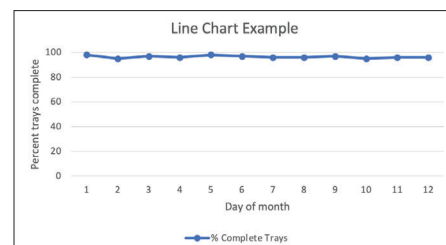

Figure 1
**Line charts:** Line charts, such as **Figure 1**, are an effective way of looking at data over time (or in batches). The timeframe is placed on the x axis (horizontal line) and the measurement is placed on the y axis (vertical line). The resulting graph can show trends: straight lines show stability whereas lines going up or down reflect changes in performance over time.